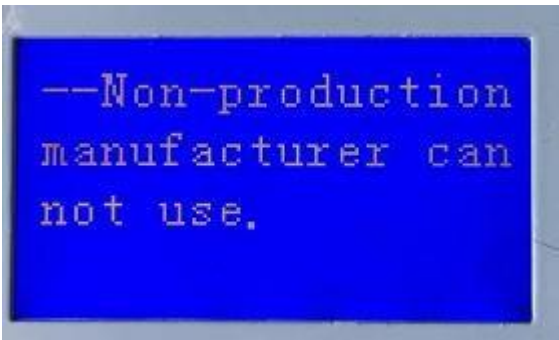

Figure 9
4.3 Para setting.(Non-production manufacturer can not use).Figure 9 shows.